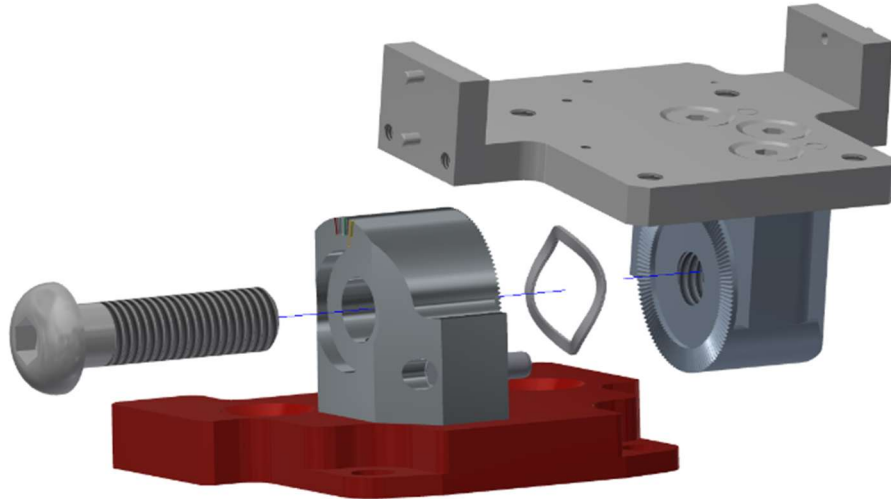

Figure 6-22. Remove the M12 X 1.75 X 45 LG. SHCS from the Lumbar Posture Gear Assembly (474-3068-A)
6.2.12 Remove the M12 X 1.75 X 45 LG. SHCS from the Lumbar Posture Gear Assembly (474-3068-A) (Figure 6-22).